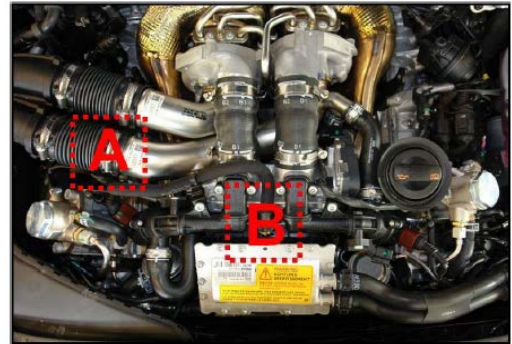
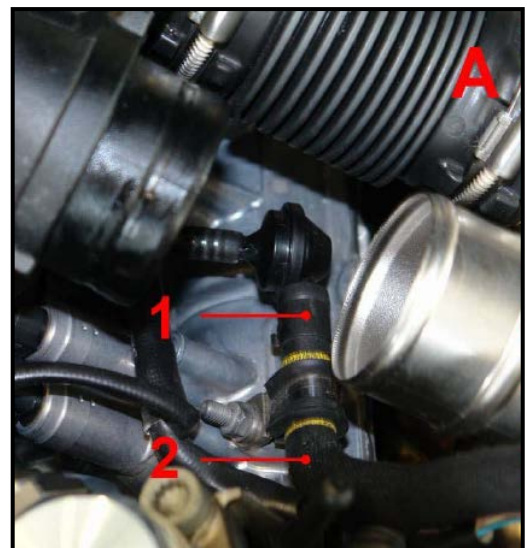

Figure 6. Location of ACF hose (A).
Figure 7. ACF hose (2) and hose clip (1).
1. Replace ACF hose (Figure 6 and Figure 7). The hose clip can be re-used.